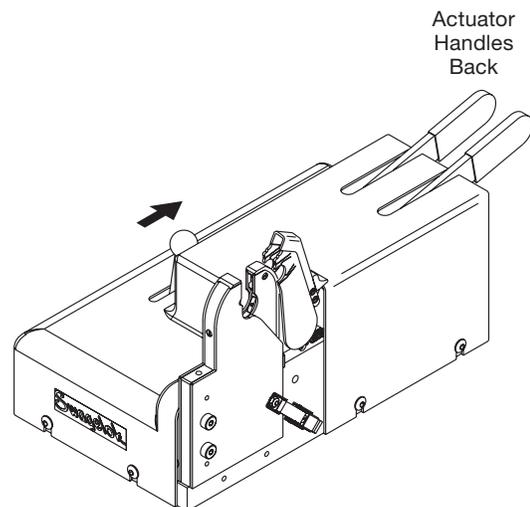

Figure 31 Positioning the Weld Head for a Tool Change
2. Push and hold the tool change lever back while pushing each handle to its rear-most position. Once each handle is back, release the tool change lever to lock the handles in the tool change position. See Figure 31.